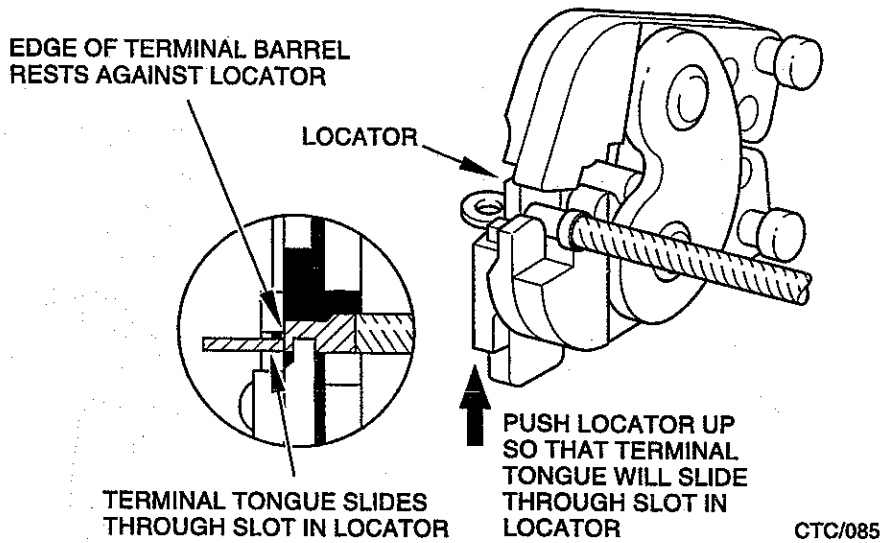
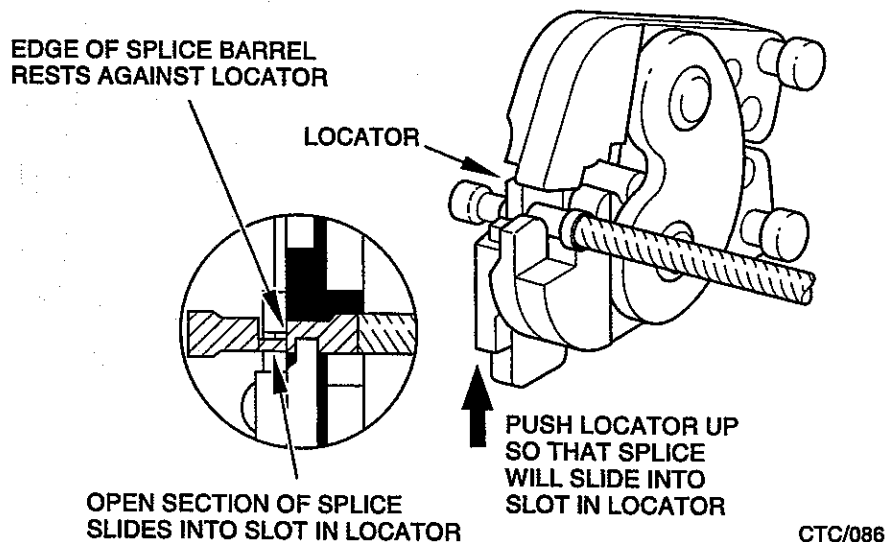

Fig 4 Correct location of termination tongue in crimping tool
Fig 5 Correct location of butt splice in crimping tool
7.1 Place the termination between the crimping jaws as shown in either Fig 4 or Fig 5.
- 9.3 Place the termination in the crimping jaws (see Fig 4 or Fig 5) so that the barrel butts against the locator as shown.